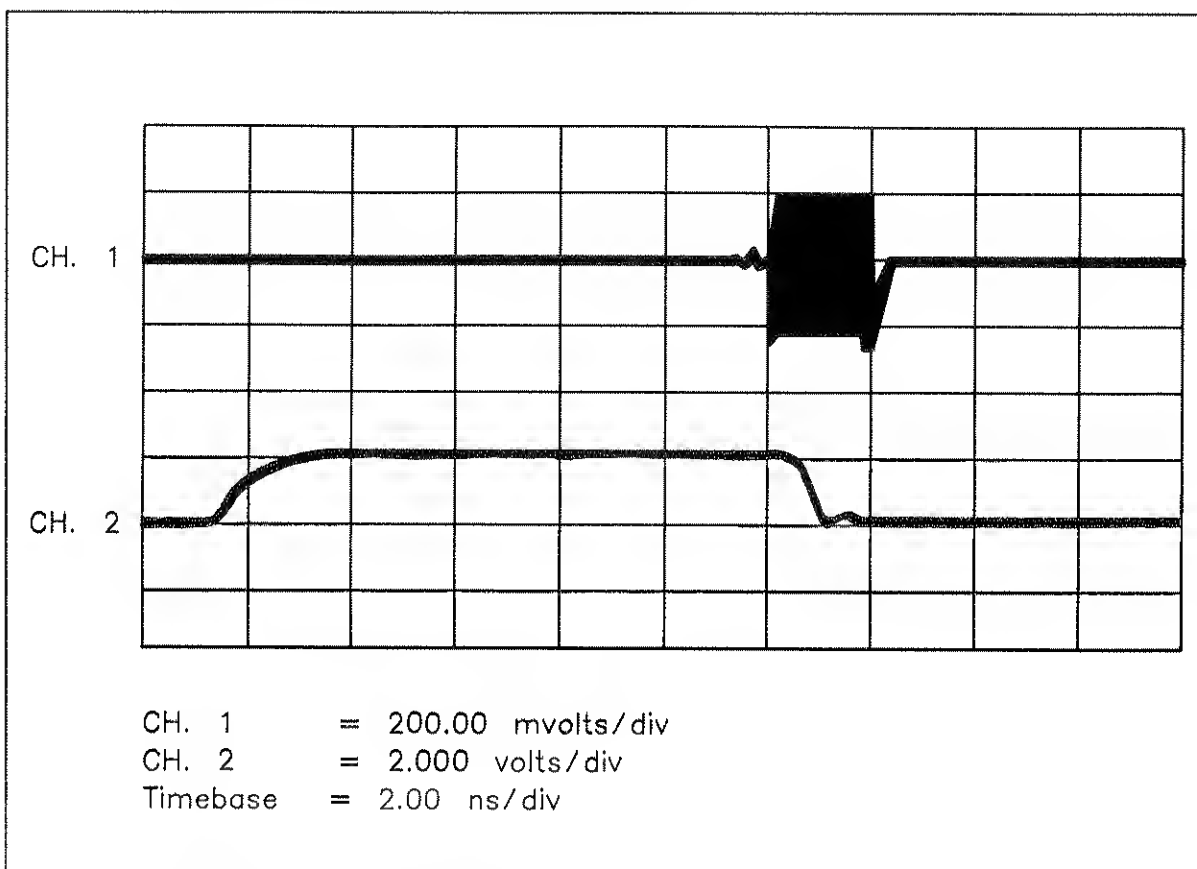

Figure 3-18. Pulse Modulation Synchronization and RF Pulse Waveforms
- c. Set the delay time to approximately 40 ns the fine adjust it until the 50% point on the rising edge of the synchronization pulse (channel 2) is one division from the far left. Compare the waveforms with those in figure 3-18.